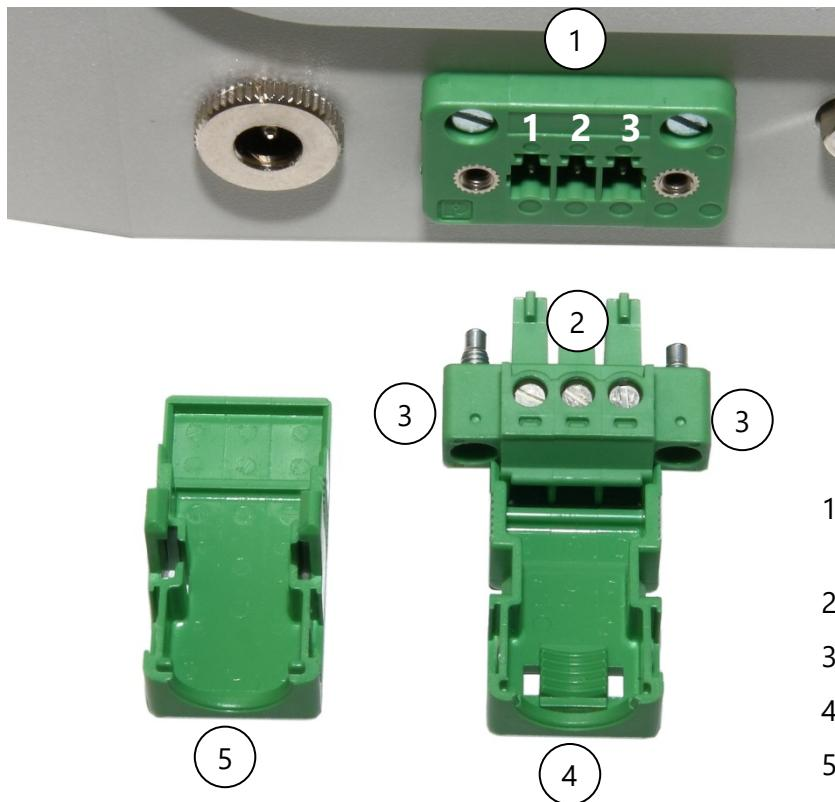

Figure 4: Connector
- (2) To connect the VISY-View Touch, use the supplied 3-pin connector (see Figure 4) and the associated connector housing.